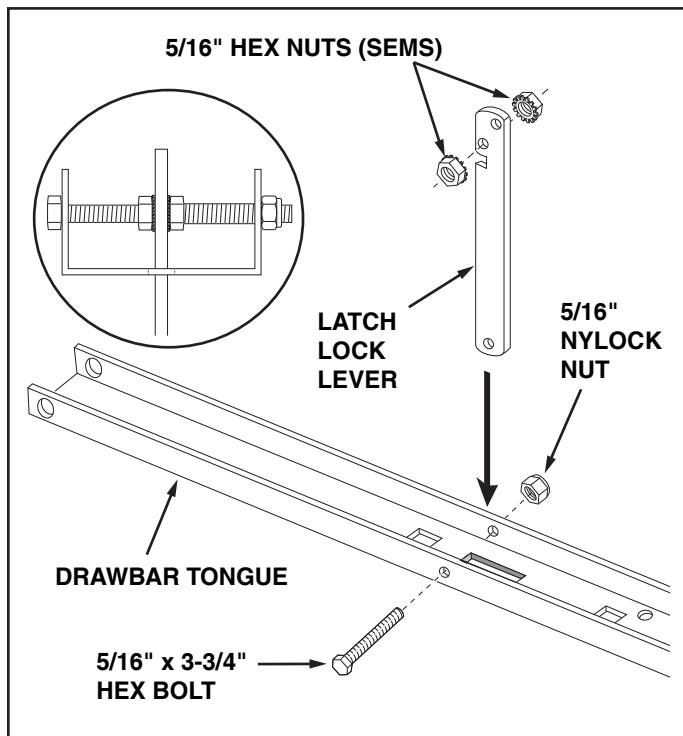

FIGURE 1
3. Place the latch lock lever through the slot in the draw bar tongue as shown in figure 1. Assemble the 5/16" x 3-3/4" hex bolt through the tongue, the lever and two 5/16" hex nuts (SEMS) (one on each side of the lever). Assemble a 5/16" nylock nut onto the end of the bolt and **tighten** so that the bolt can still rotate freely. **Tighten** the two 5/16" nylock nuts against the sides of the latch lock lever so that the lever is centered in the slot. See figure 1.